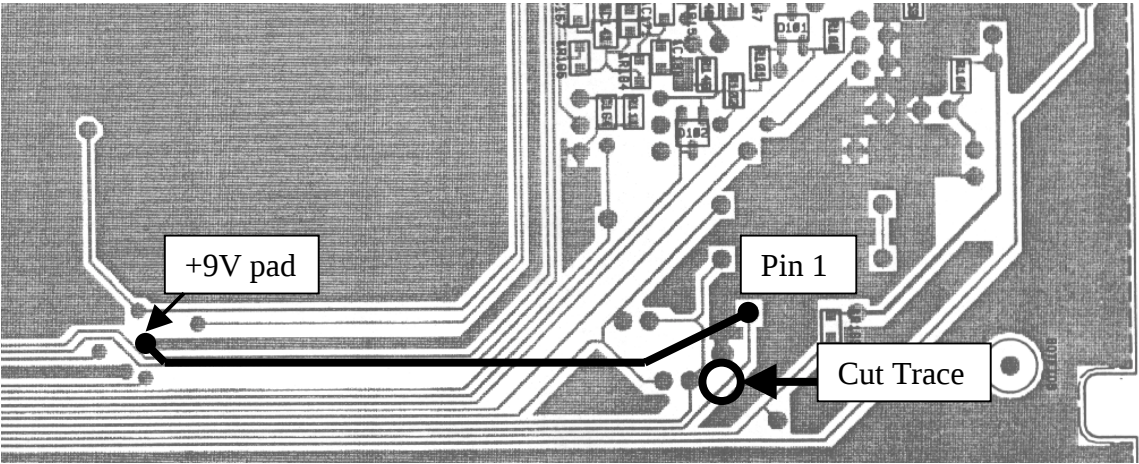

Figure 5 - T881 Transmitter PCB, Bottom Side (EEPROM Module). 2/5
5. On the bottom side, cut the trace between pin 1 of T100 and the pad going to pin 1 of DRANGE connector (PL100). Refer to Figure 5, page 7.
6. On the bottom side, solder a 3" wire (26AWG) from the +9 volts feedthrough to pin 1 of T100. Refer to Figure 5, page 7. (Note 6)